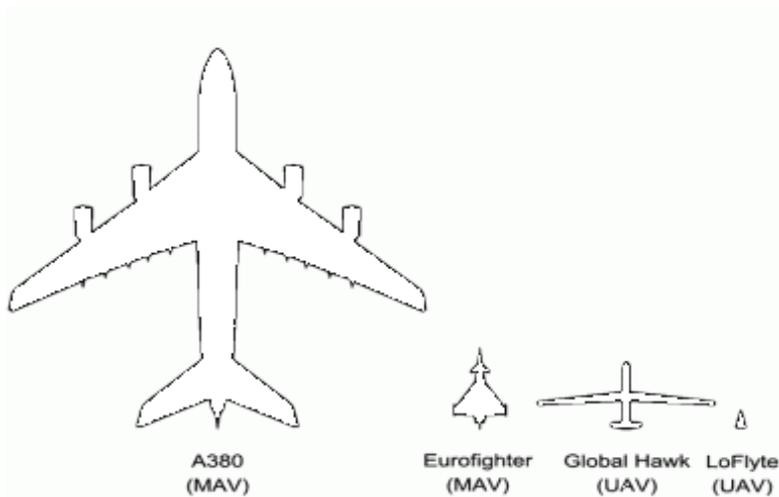

Figure 5 - Graphical representation of MAV versus UAV size
**Size** - UAVs are generally much smaller than MAVs doing the same job. Much of this size difference is due to the lack of a pilot and supporting systems on the UAVs (see Figures 5 and 6).